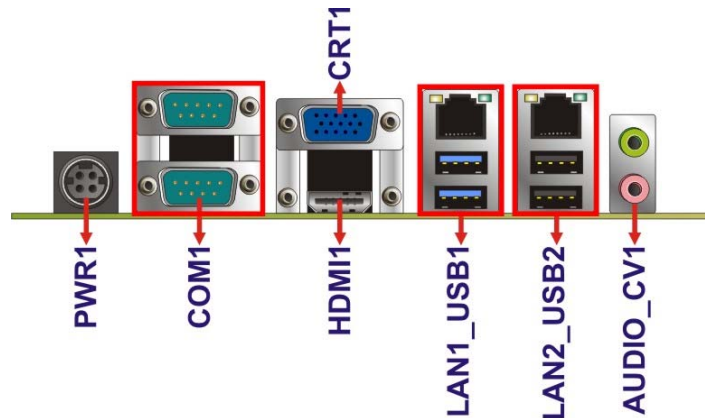

Figure 3-24: External Interface Connectors
Figure 3-24 shows the KINO-CV-D25501/N26001 motherboard external interface connectors. The KINO-CV-D25501/N26001 on-board external interface connectors are shown in Figure 3-24.
CN Location: See Figure 3-24
- CN Location:** See **Figure 3-24**
CN Location:	See Figure 3-24